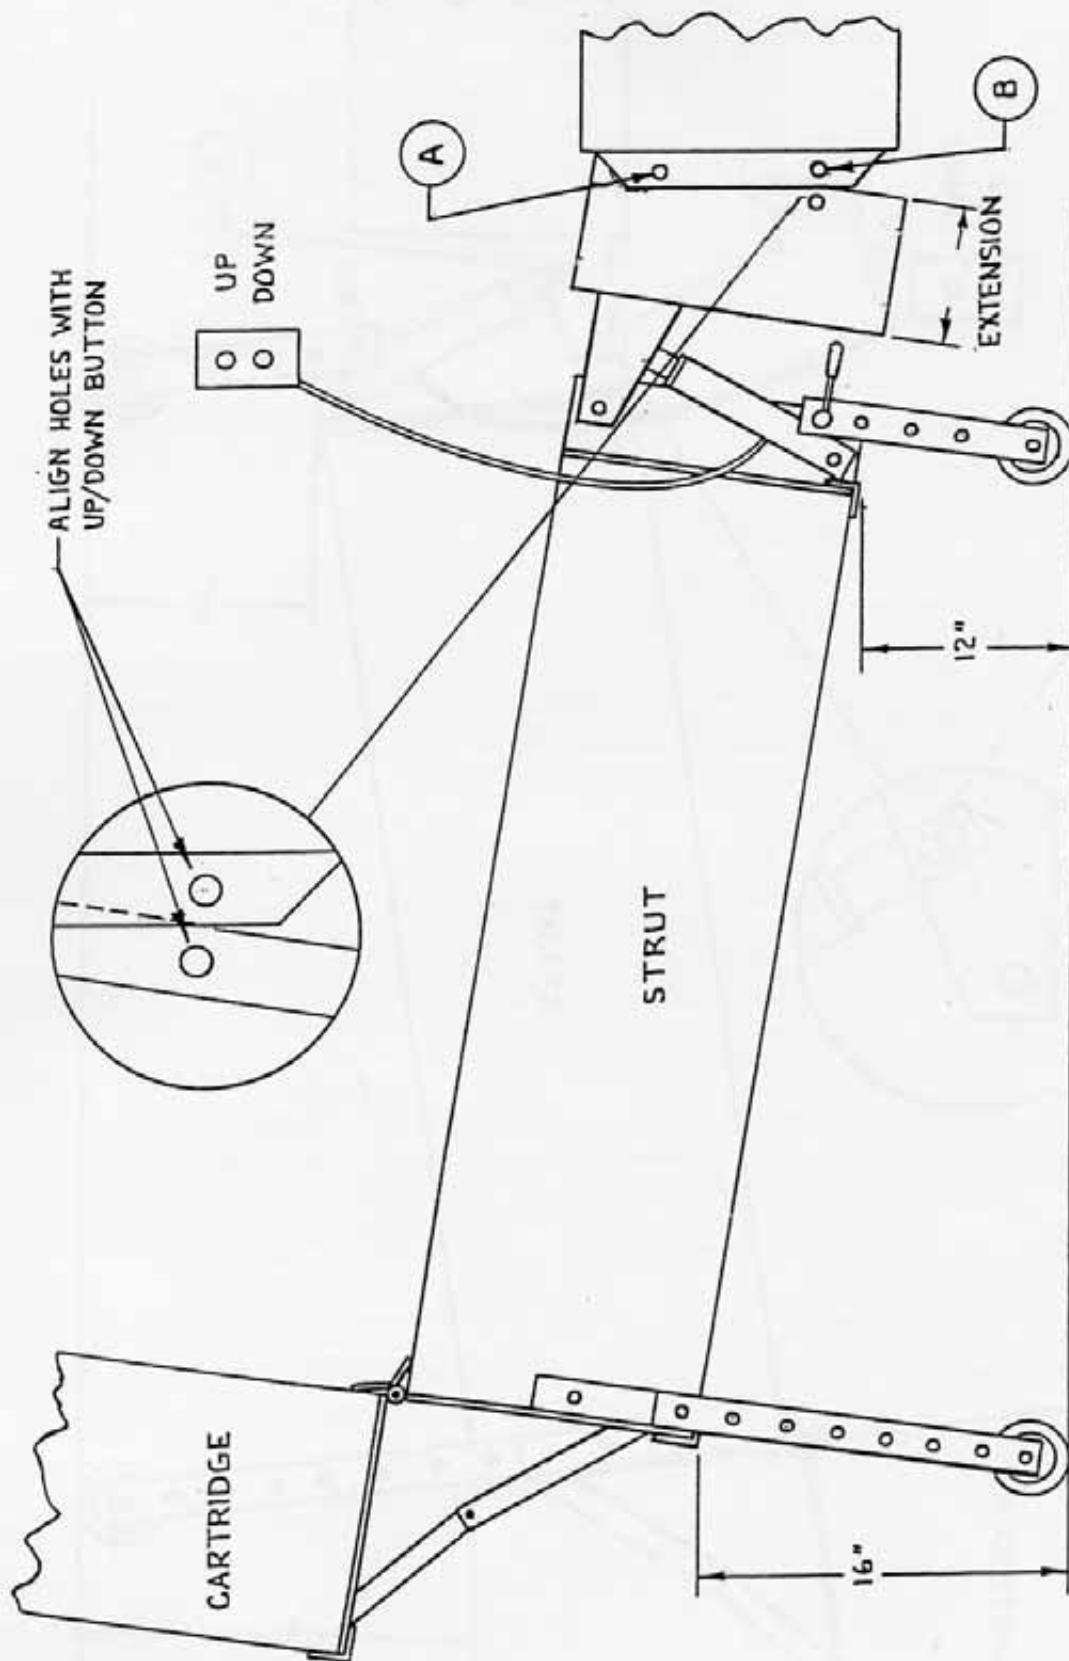

FIG. 2 EXTENSION FOR DUMP TRUCK
5. 12" Extension for Dump Truck	Fig. 2 5